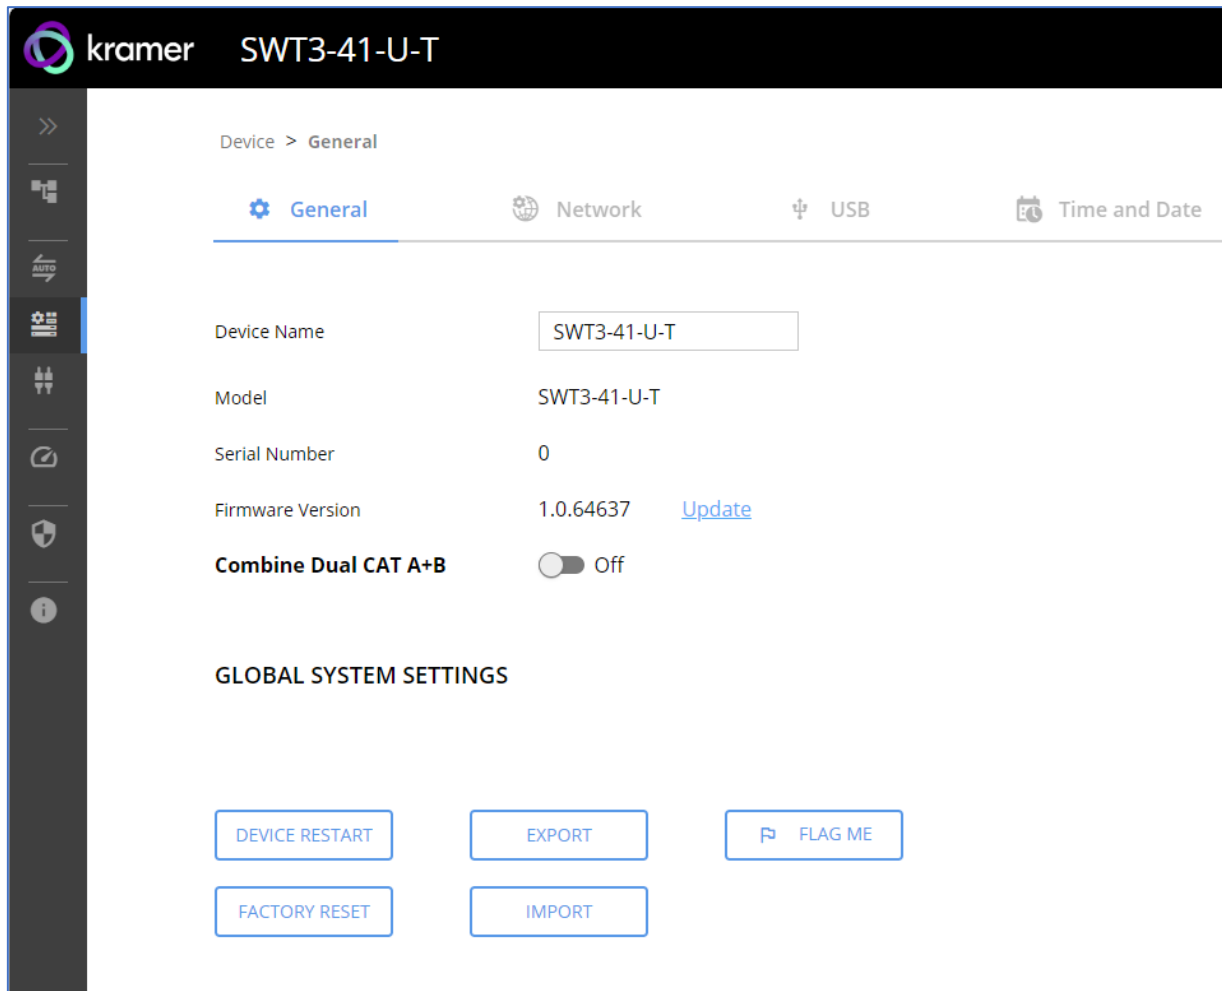

Figure 22: Device > General Page
1. Go to the **Device** > **General** tab (Figure 22).
- Click **DEVICE RESTART** on the **Device > General** page (Figure 22).
- Click **FACTORY RESET** on the **Device > General** page (Figure 22).
1. Go to the **Device > General** page (Figure 22).
1. Go to the **Device** > **General** page (Figure 22).